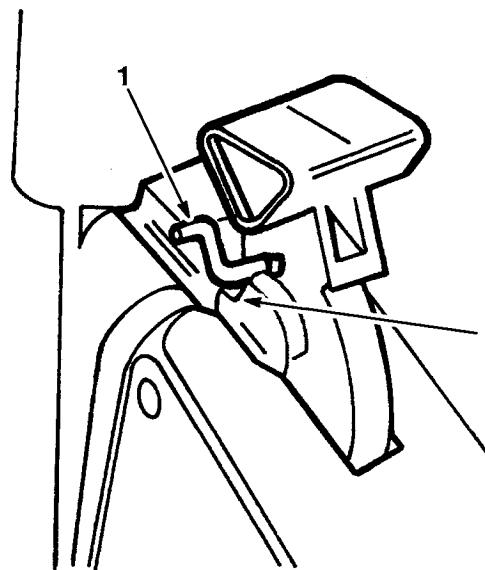

Figure 24
4. Pull handle rearward until handle latch locks in notch in bag door latch (Fig. 24). Discharge door in mower housing is now open and bag is locked into position. Latch should seat in bottom of notch.